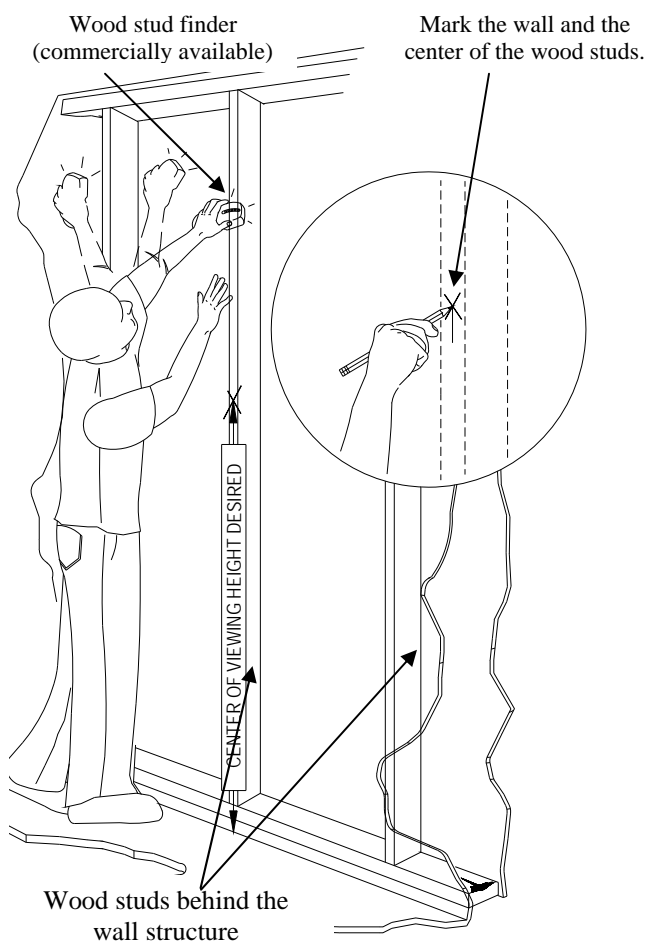

Figure 12
3. Place the wall plate to the reference line and mark the nine (9) lag bolt mounting points through the wall plate slots on the wall.
5. Drill nine (9) $\frac{1}{4}$ " pilot holes to the marked wall (Figure 12).